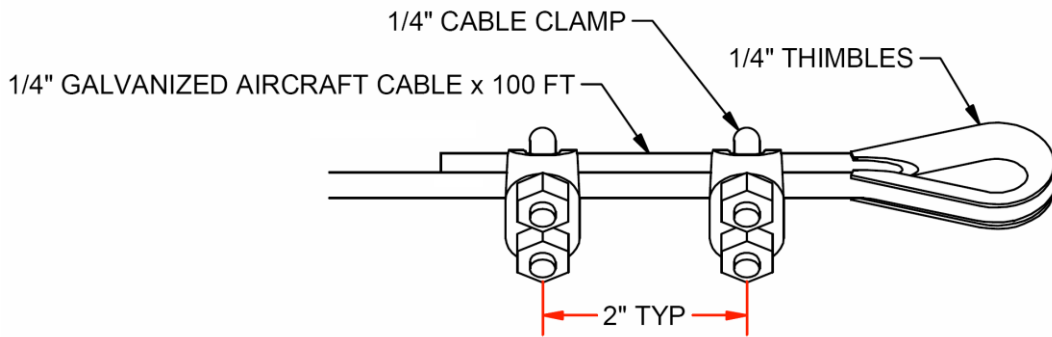

Figure 1: Assemble End Loops
- 1) Make up one end of each of the three cables, as shown in Figure 1. Tighten the cable clamps using a nut driver.